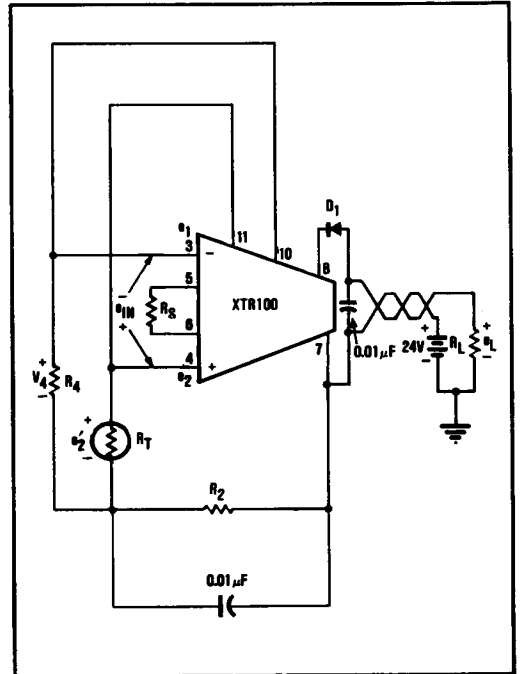

FIGURE 7. Circuit for Example 1.
**EXAMPLE 1 - RTD Transducer** shown in Figure 7.
In order to make the lower range limit of 25°C correspond to the output lower range limit of 4mA the input circuitry shown in Figure 7 is used.
This is a general error expression. The composition of each component of error depends on the circuitry inside the XTR100 and the particular circuit in which it is applied. The circuit of Figure 7 will be used to illustrate the principles.
For the circuit of Figure 7,
Given the circuit in Figure 7 with the XTR100B specifications and the following conditions:  $R_T = 109.4\Omega$  at  $25^\circ\text{C}$ ,  $R_T = 156.4\Omega$  at  $150^\circ\text{C}$ ,  $I_o = 4\text{mA}$  at  $25^\circ\text{C}$ ,  $I_o = 20\text{mA}$  at  $150^\circ\text{C}$ ,  $R_S = 123.3\Omega$ ,  $R_4 = 109\Omega$ ,  $R_1 = 250\Omega$ ,  $R_{\text{LINE}} = 100\Omega$ ,  $V_{D1} = 0.6\text{V}$ ,  $V_{PS} = 24\text{V} \pm 0.5\%$ . Determine the % error at the upper and lower range values.